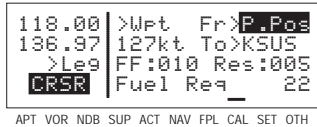

Figure 4-59
*NOTE: On either of the two waypoint fields on this page, you can select your present position. To do this, press **[CLR]** while the cursor is on the desired waypoint field (figure 4-59). The results will only be displayed when your KLX 135A is receiving a valid position, or if you happen to be in the Take Home mode (see section 4.7, "Using the Take-home Mode").*